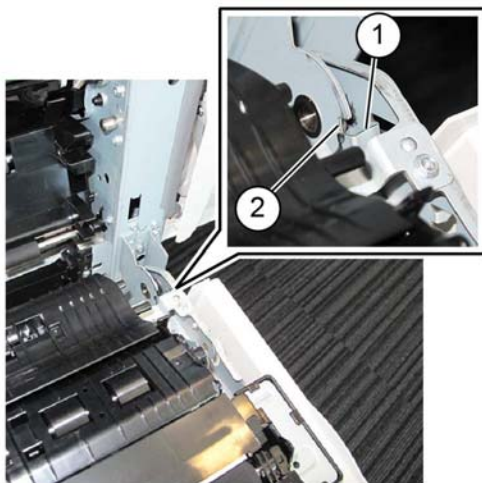

Figure 5 Alignment
2. Align the tab on the LH cover front frame with the cutout on the bypass tray front frame assembly then move the LH cover backwards, Figure 5.